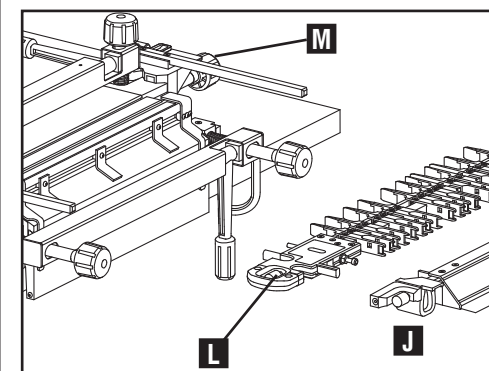
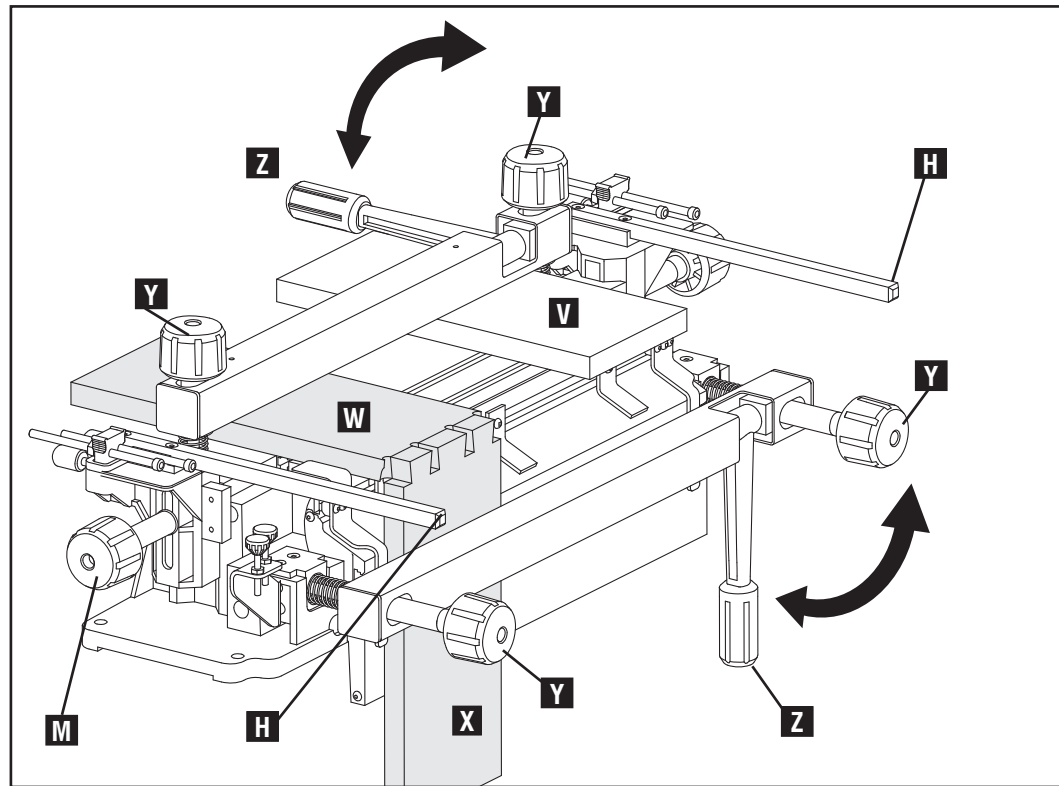

Fig. C12
Fig. C13
For horizontally mounted workpieces (W) always include a scrap piece (V) Fig. C13 of the same thickness on the opposite side to ensure flatness of the template and to provide stability.
NOTE: Before mounting the wood, it may help to remove the stabilizer bar (J) Fig. C12. Also, raise and lock the mounting bars (H) Fig. C13 above the jig while positioning your workpiece. Remember to loosen the template's knurled thumb screws (L) Fig. C12 before loosening the template mounting rod lock knobs (M) Fig. C13 as you raise the template.
Workpieces can be mounted in either the horizontal (W) Fig. C13 or vertical (X) position to be cut, depending on the joint you are making. Both vertically and horizontally mounted wood is clamped the same way:
1. Loosen the workpiece locking bar knobs (Y) Fig. C13 and pull workpiece locking lever (Z) forward for horizontal piece, or up for the vertical piece.
3. Tighten the workpiece locking bar knobs (Y) until bar almost touches the workpiece.
4. Clamp workpiece locking bar down and secure the wood by pushing the lever (Z) Fig. C13 to the rear of the jig for horizontal workpiece, or pushing down for vertical workpiece.